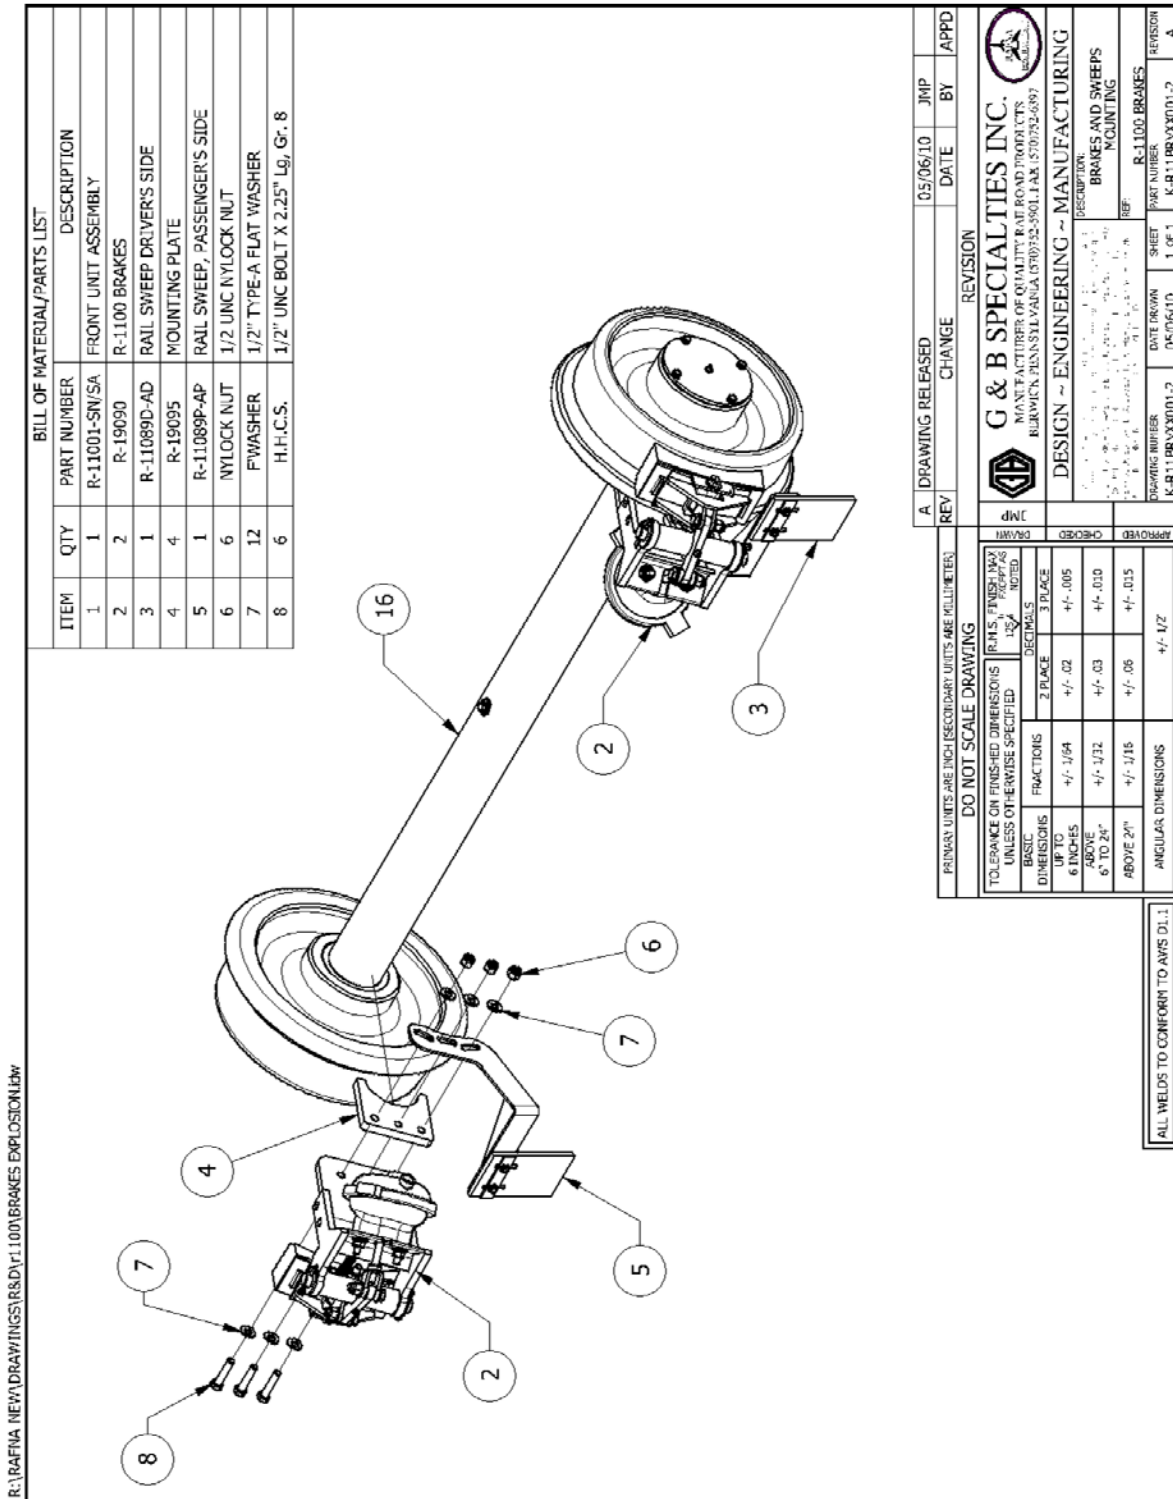

Figure 2
4. Using three ½" x 2.25" long bolts, six ½" flat washers and three ½" nylock nut, fasten the side of each air brake assembly and each rail sweep assembly to each axle end plate. Use Figure 2 as a reference located in the Parts section.